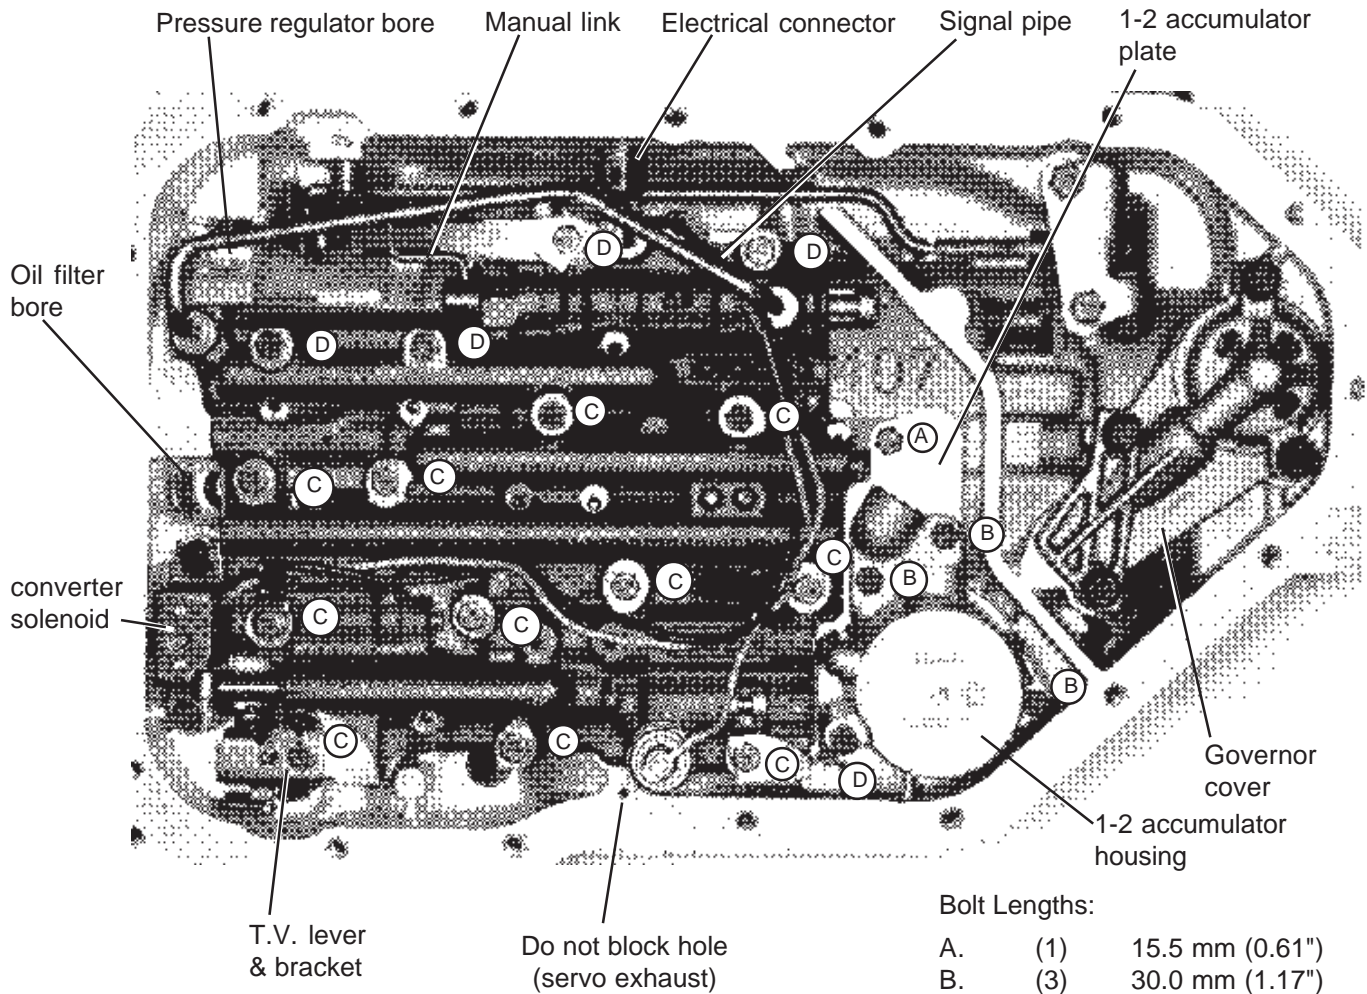
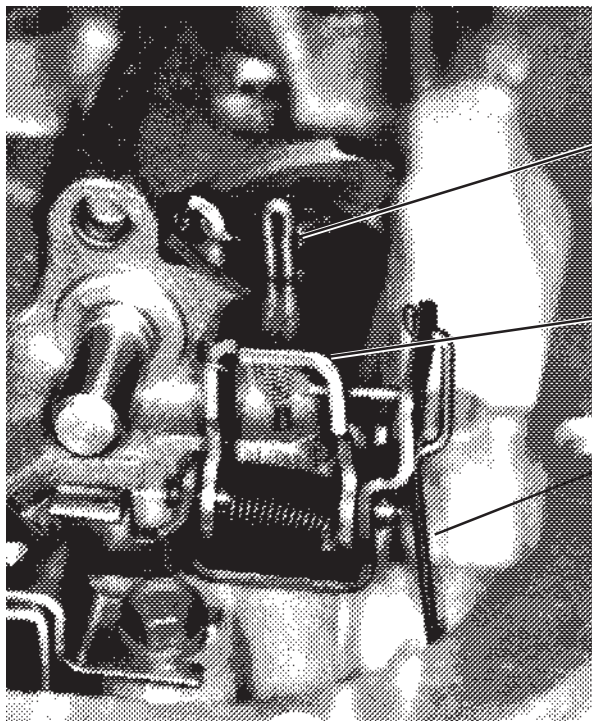

Fig. 1. Valve body and accumulator installed.
Fig. 2. T.V. Lever and Bracket.
STEP 3. (See Fig. 1) There are a variety of different wiring harnesses used on the TH-200-4R. Before proceeding further make a sketch and some notes describing your particular unit, recording which connectors go to which switch. Disconnect the T.V. cable connector from the throttle lever on carburetor or throttle body. Remove connectors from switches. Unplug the wiring harness from case electrical connector by prying the lock tab away from the plug and pulling down on the plug, **do not pull on the wires**. Removing solenoid is not required, just tie the wires up out of the way. Remove signal oil pipe, detent spring, and the throttle valve lever and bracket assembly, (see Fig. 2.)
STEP 4. Remove all valve body bolts **except** the center one (See Fig. 1.) Hold the valve body up firmly with one hand and remove the remaining bolt slowly. Lower the valve body and disengage the manual valve link. There are several check balls in the valve body along with several pints of oil. Have your drain pan ready to catch the oil and check balls (should they fall out.) Save all (12) check balls in a safe place where they won't get lost.
draw the accumulator up to the case. **STEP 16. Valve body installation.** Make sure check balls are in proper locations. Position the manual valve so the link rod can be engaged (See Fig. 1.) Do not force the manual valve at any time. When the link and manual valve are fully engaged, align the valve body and case holes then install one bolt finger tight to hold valve body in place. **Important:** Make sure the manual valve link is located as shown.
STEP 17. Install the throttle valve (TV) linkage onto the valve body as shown, make sure the T.V. exhaust checkball lifter rod is correctly assembled. (See Fig. 2.) **IMPORTANT NOTE:** The T.V. cable **MUST** be reset before operating vehicle refer to **step 22.**
STEP 18. Carefully insert ends of the signal oil pipe in their respective bores and push them in evenly until fully engaged. Engage all of the remaining bolts to finish lining up the separator plate and gaskets (See Fig. 1.) Tighten all the valve body and accumulator bolts to 11 NM (8 Ft. Lb.) Avoid stripped threads, Do not over tighten bolts.
(Fig. 1) is not obstructed. Place pan up to case, align holes and install all bolts finger tight. Tighten bolts to 14 NM (10 Ft. Lb.) Do not over tighten bolts. If the bolts are over tightened the gasket will deform excessively and result in oil leaks.